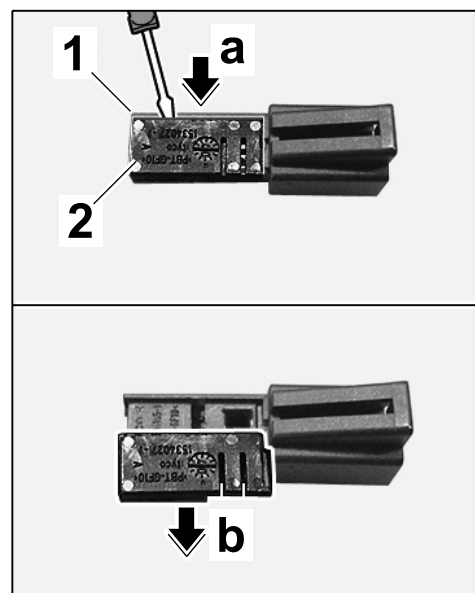

Figure 9
- 2.3.2 Insert a screwdriver in between the plug socket $\Rightarrow$ Figure 9 -1- and secondary lock $\Rightarrow$ Figure 9 -2- ($\Rightarrow$ Figure 9 -arrow a-) and release secondary lock $\Rightarrow$ Figure 9 -arrow b-.